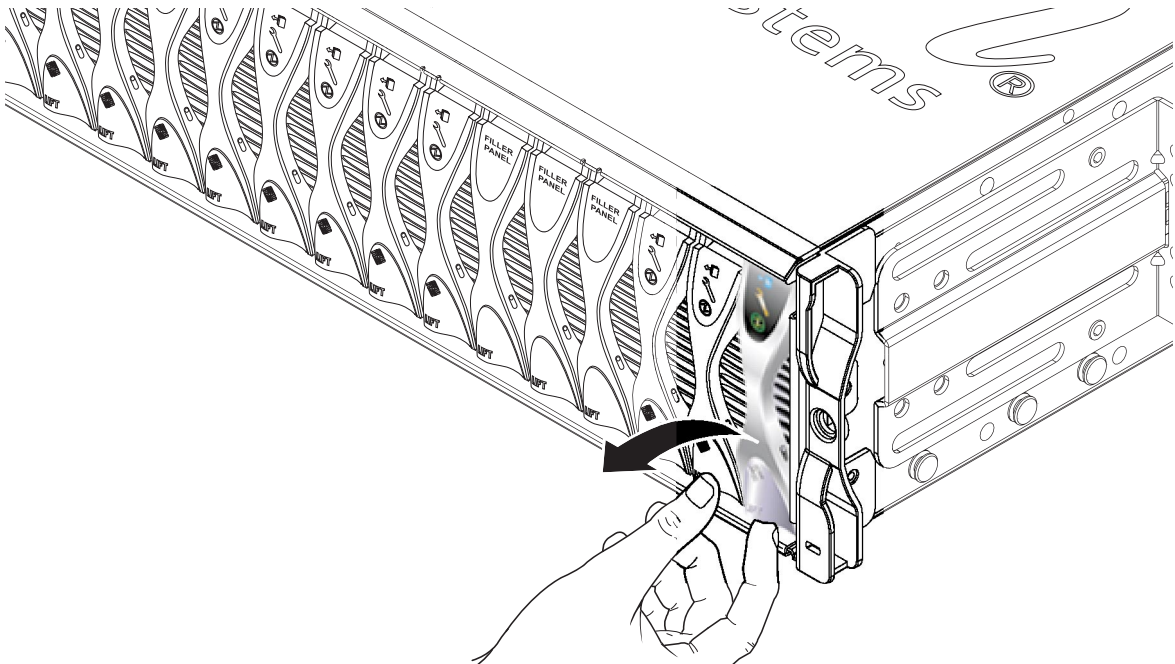

FIGURE 2-2 Disengaging the Blade-Locking Mechanism
2. Pull the lever mechanism in a forward and upward motion, causing the filler panel lever to unlatch and eject the filler panel partially from the Sun Fire B1600 blade chassis (FIGURE 2-2).